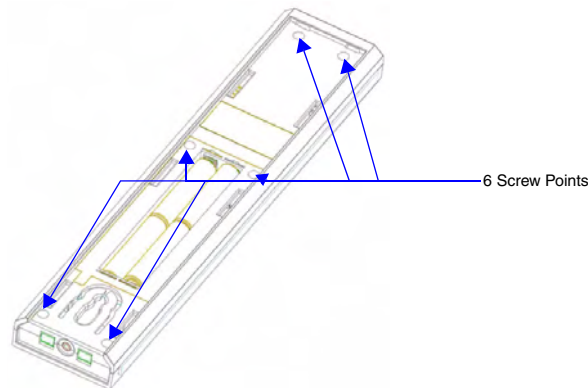

FIG. 7 6 Screw Points of The Back Housing
4. Remove the 6 screws shown in FIG. 7.